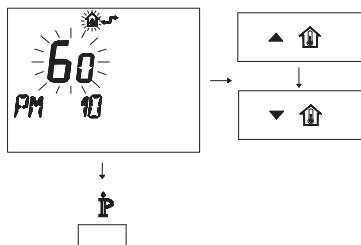

Fig. 7.38
- To modify the programmed SET, act on buttons ▲  or ▼  and wait for the number programmed to flash (Fig. 7.38).